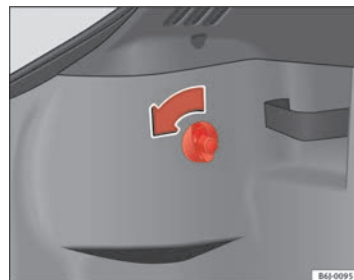

Fig. 146 Access to tail lights
- Turn the bolt in the direction of the arrow, by hand or with a screwdriver ⇒ fig. 146.
- Remove the connector from housing (A) ⇒ page 221, fig. 146.